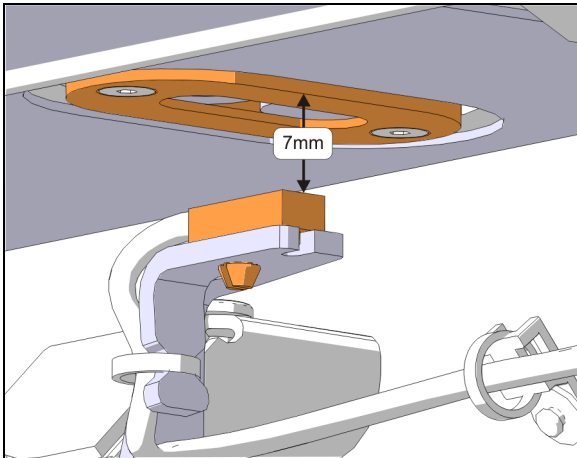

FIGURE 53: SENSOR VERTICAL ADJUSTMENT
- Bring slowly the sensor toward the outside of the vehicle until the LED turns on. When it does, move it 0.079" (2mm) further in the same direction. Adjust vertically to 7mm from magnet support face (Figure 53). Tighten the mounting bracket screws.